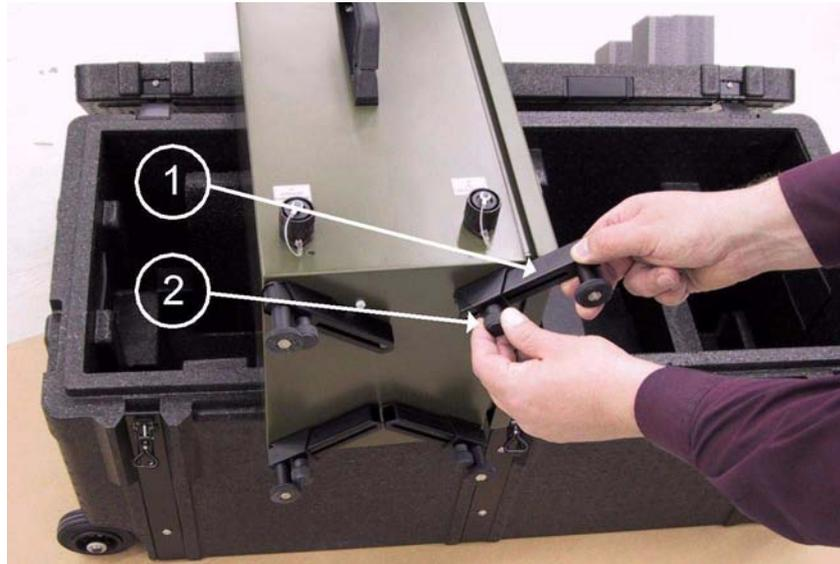

Figure 56 CT25KAM on the Transit Case
1. Open the transit case QTR104. Lift the ceilometer using the handle of the unit and place it horizontally on the transit case as shown in Figure 56 on page 68.
2. Open the hand screws (number 2 in Figure 56 on page 68). Widen the legs (1) of the ceilometer. Close the hand screws.